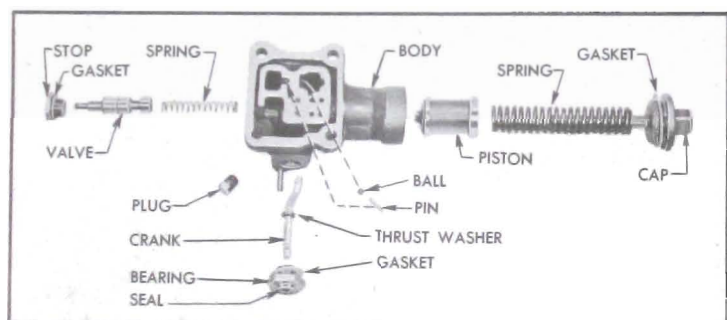

Figure 5-70—High Accumulator—Disassembled
2. Remove the pipe plug, cap, gasket, spring (2 in low) and piston from accumulator body. Keep parts separated so that same parts will be reinstalled in same body. See figure 5-70.
3. *On high accumulator only*, remove clamp bolt, lever, bearing with seal, gasket, thrust washer and control valve crank from accumulator body, then remove valve stop with gasket, control valve and spring. See figure 5-70.
11. *On high accumulator only*, install spring, control valve and stop, then install crank with thrust washer, bearing with new gasket and seal (grooved side inward), operating lever and clamp bolt. See figure 5-70.
13. Install pipe plugs in both accumulator bodies and install check ball and retaining pin in the high accumulator body. See figure 5-70.